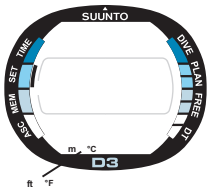

Fig. 4.17. Setting Unit Adjustment.
2. Wait two seconds until the Adjustment Mode activates automatically. The unit setting starts to blink on the display (Fig. 4.17.).
While the units are blinking in the lower part of the display, press + or - to change units (Fig. 4.17.).